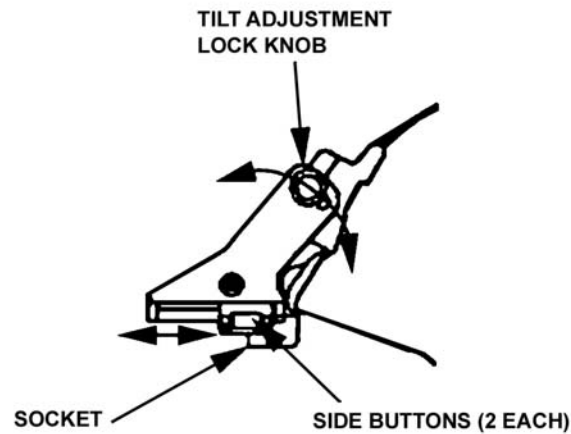

Figure 7. Tilt and flip-up assembly mechanisms.
- c. Place the monocular in the socket of the helmet mount (Figure 7). Set your eye relief by depressing the side buttons and carefully move the monocular fore and aft until the eyecup comfortably seals around the eye. Readjust the helmet straps as required for vertical adjustment.
- d. Turn power switch to ON. Adjust the tilt by using the tilt adjustment lock knob (Figure 7) until you obtain a comfortable viewing angle.